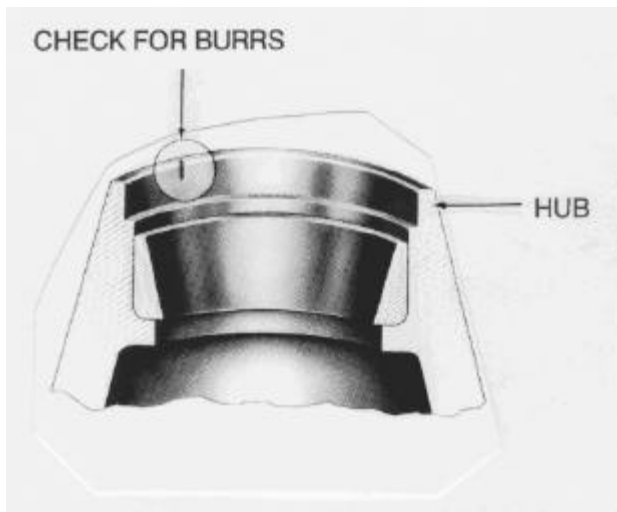

Figure 23 Check for Burrs at Bore Entrance
1. Inspect the bore into which the seal fits. Check for nicks or gouges that could cause leakage. Sharp corners at the bore entrance can score the seal O.D. when it is pressed in and can cause oil leakage (Figure 23).